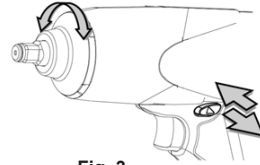

Fig. 3
4. For reversing the machine, (See Fig. 3) use the forward/reverse rod on the drive unit. The directions of the rotation are also shown on the face of the bar.